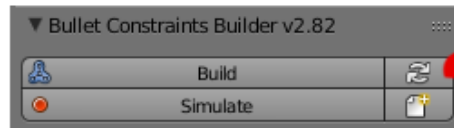

Figure 15
- To change the collapse scenario it is recommended to reload the previously saved model (with the ready built constraints setup). Please don't forget to reload the configuration settings, Figure 15. Then define a new collapse scenario and start the simulation.